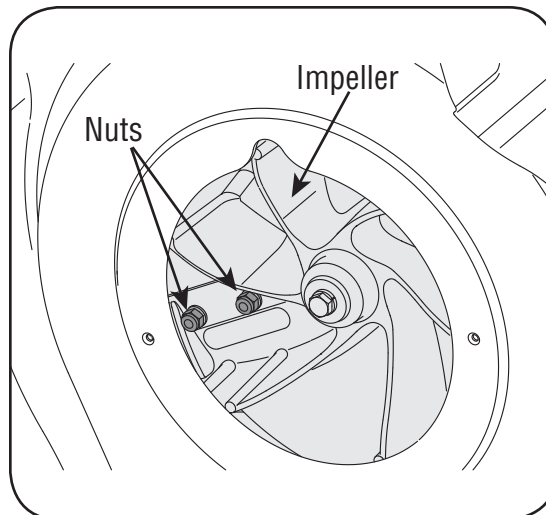

Figure 24
10. The nuts on the flat head cap screws can be reached from underneath using a 1/2-inch socket, universal, and extension. See Figure 24.